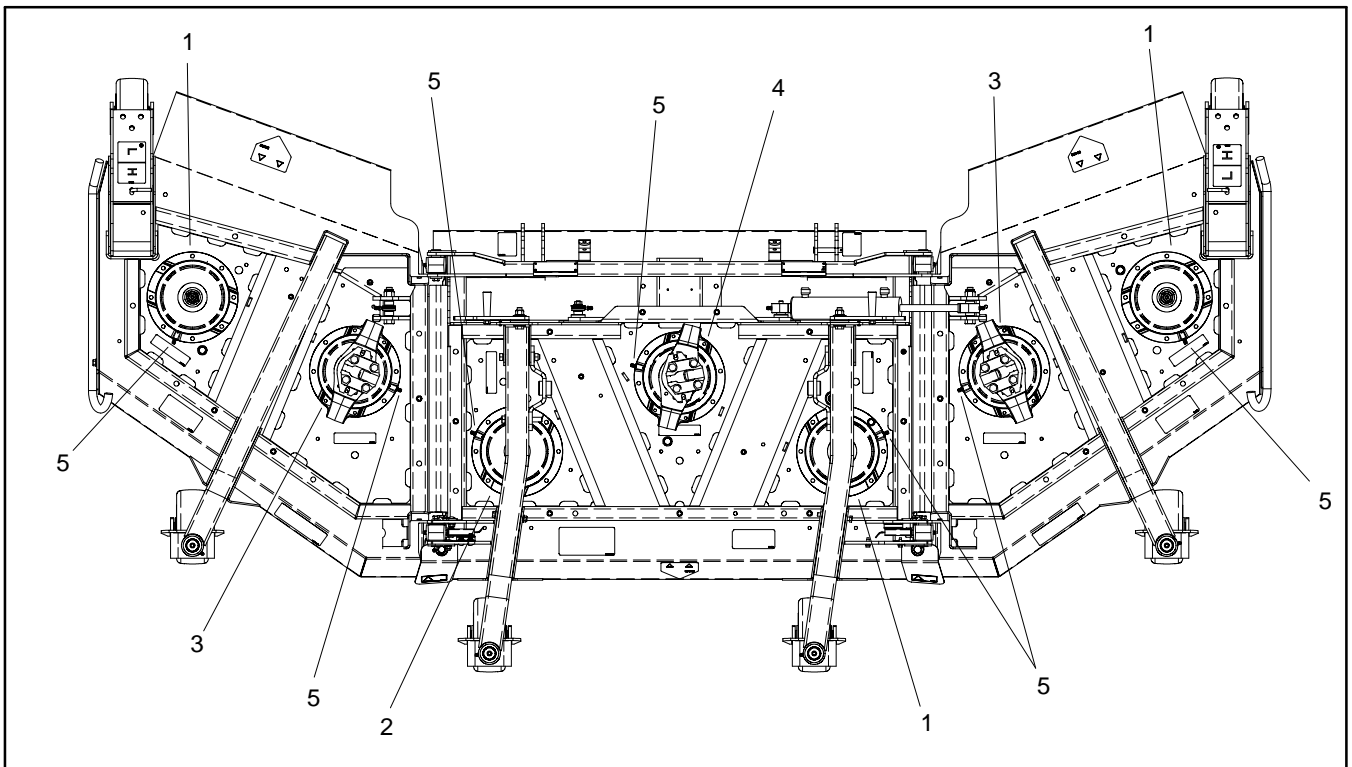

Figure 15
1. Position spindle on cutting deck noting orientation of grease fitting (Fig. 15). Secure spindle assembly to deck with removed fasteners.